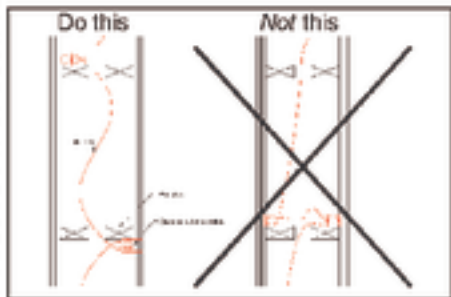

FIGURE 3.6—Wires in wall construction levels, e.g., audio and control (Note: Top view of wall, insulation is not shown for clarity only)
- Never mount electrical boxes or connector panels back to back; always stagger them as shown in the Figure 3.6. Seal the holes your wires go through, or (preferably) run wire through conduit, stuffing foam or insulation in the ends to help seal it. Isolating the conduit from the structure with *Sheetlok* or hanging it with resilient hangers can really offer some improved isolation. Remember: Sound control is a game of inches.TM